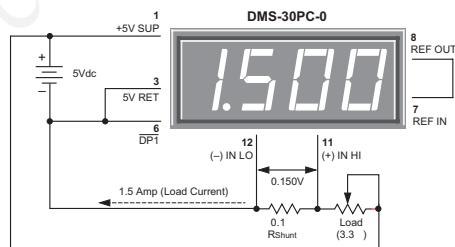

Figure 9. Basic DC Ammeter Circuit
7. **Digital Ammeter:** Digital ammeters are finding ever-increasing usage because analog-style ammeters (moving-vane types) now cost roughly the same as their digital counterparts. Additionally, analog ammeters are not nearly as rugged as modern digital panel voltmeters. Figure 9 illustrates a typical ammeter application. The circuit uses a ±200mV input meter — the preferred range for most ammeters — to measure the voltage developed across a 0.1Ω current shunt. The circuit shown represents a basic ammeter connection diagram. A detailed application note describing digital dc ammeters is included in DATEL's new Digital Panel Meter Databook.